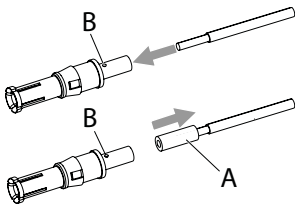
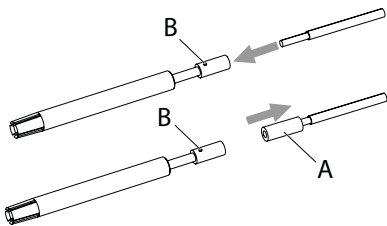

Fig. 37: Pilot contacts
Fig. 39: Auxiliary contacts
- Push the bare cable braid into the connection area of the contact (Fig. 37 or Fig. 39).
- Push the reducing bushing (A) as shown in Fig. 37 or Fig. 39 onto the bare cable braid and push the cable braid together with the reducing bushing into the connection area of the contact.
- Push the cable braid (if necessary including the reducing bushing) into the contact until it is visible in the checking hole (Fig. 37/B or Fig. 39/B)